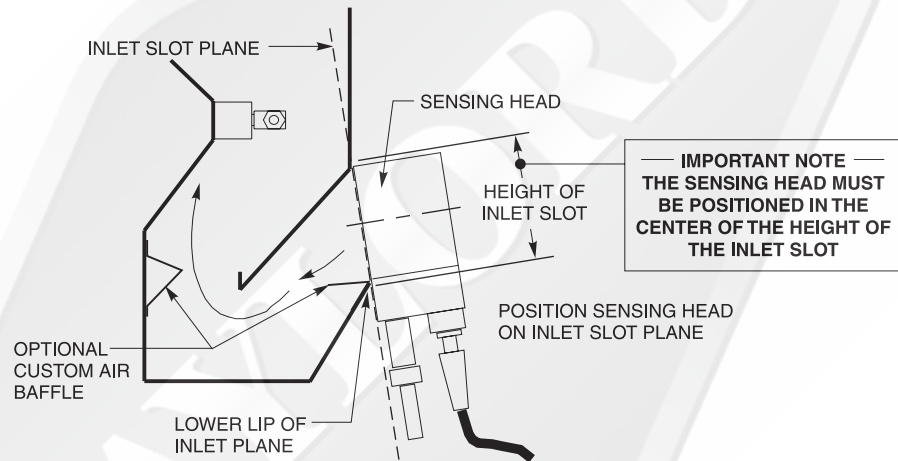

FIG. 23B
1. It is first necessary to determine if the ventilator includes Custom Air baffles as shown in fig. 23B. If shop drawings are available, and if equipped, the custom baffles and their location will be noted on the front elevation. If not available, to determine if Custom Air baffles are provided, place your hand over the lower lip of the inlet slot and slide it along the entire length of the slot to feel for the baffle.